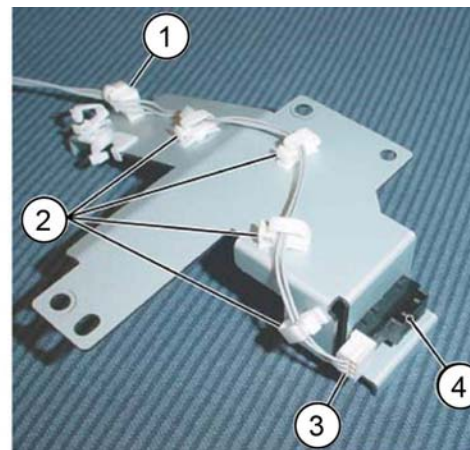

Figure 5 Stack height sensor removal
10. Remove the stack height sensor, **Figure 5** :
- a. Remove the clamp (1).
- b. Release the harness from the clamps (2).
- c. Disconnect the connector (3).
- d. Remove the stack height sensor (4) from the bracket.